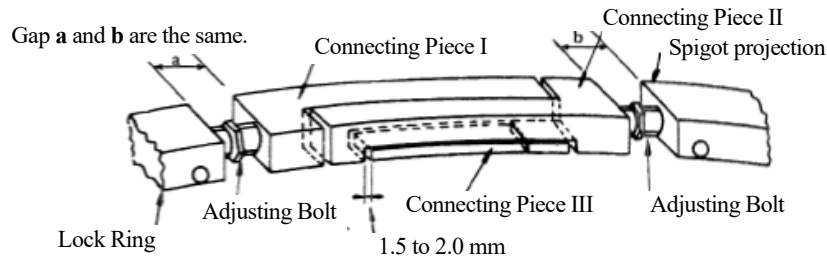

Figure-8 Adjustment of Lock Ring Connecting Pieces
(5) Keep tightening the fastener nut to complete contact with the Lock Ring and the spigot surface. Insert the Connecting Piece III into the Connecting Piece slot. Turn both Adjusting Bolts to fine-tune the gap between Connecting Pieces II and III from 1.5 mm to 2.0 mm. (See Figure-8.) Balance the “a” and “b” gaps between the Lock Ring and Connecting Pieces to the same distances.